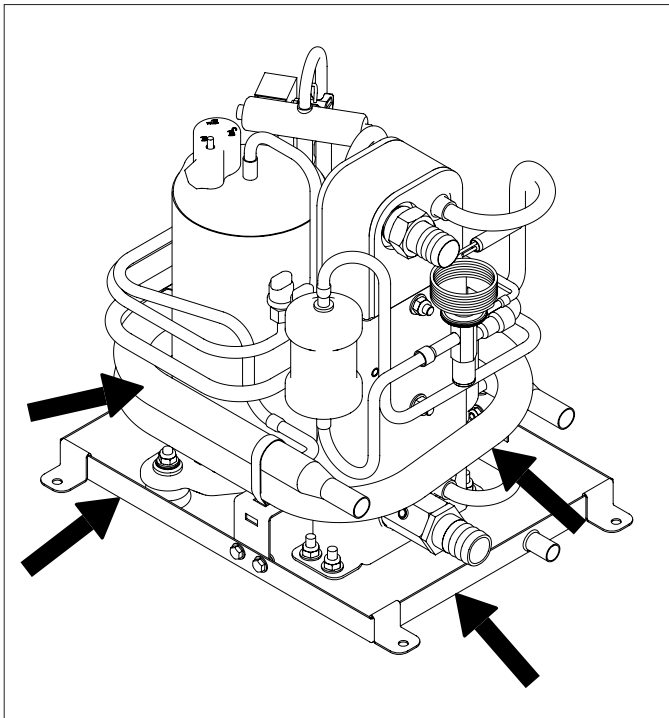

Fig.6 Transport the unit
- ▶ Only use lifting gear with a lifting tackle for heavy systems. See Fig.6.